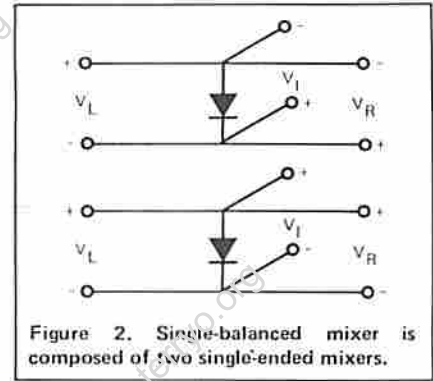
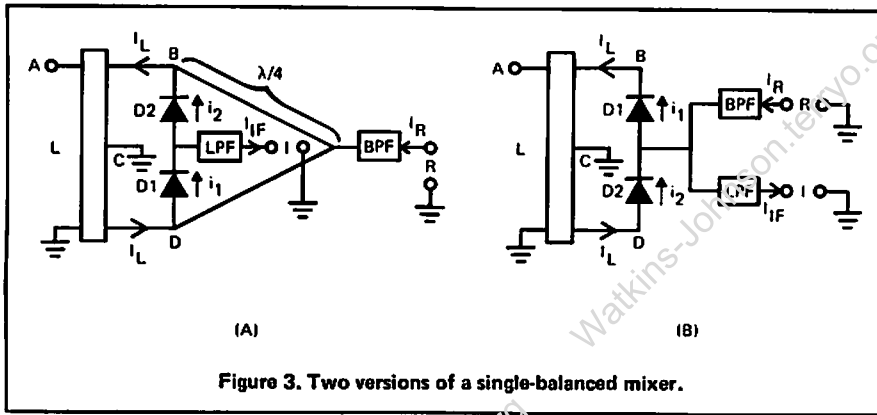
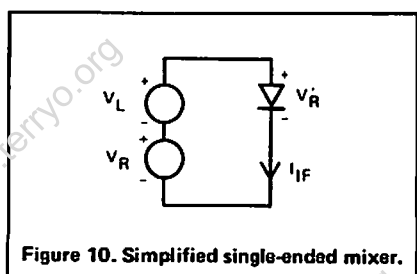

Figure 2. Single-balanced mixer is composed of two single-ended mixers.
Figure 3. Two versions of a single-balanced mixer.
Figure 10. Simplified single-ended mixer.
Charts exist that show trends in intermodulation suppression as a function of input power and frequency. Figure 2 is a single-tone intermodulation chart showing the power level of various intermodulation products relative to the IF output power. Intermodulation charts are not generally tabulated for multiple-tone intermodulation products because each coefficient (m_1, m_2, m_3, \dots and n) requires its own axis on the chart, whereas charts for single-tone intermodulation products require only two axes for m and n . Each box in an intermodulation chart represents one of the infinite integral harmonic combinations of f_R and f_L . Each box in this particular chart contains two rows that each have three values of intermodulation signal suppression. In each row, the first value is for a Class 1 mixer (WJ-M1) having +7 dBm of LO drive; the second value is for a Class 2 mixer (WJ-M9BC) having +17 dBm of LO drive; and the third value is for a Class 3 mixer (WJ-M9E) having +27 dBm of LO drive. These classes of mixers are discussed more fully later in this *Tech-notes* series. The top row in each box gives intermodulation suppression for RF input power of 0 dBm; the bottom row gives intermodulation suppression for RF input power of -10 dBm.
To illustrate the use and importance of intercept point, consider Figure 3, which shows two input RF signals, two output IF signals, and two output two-tone intermodulation products, given the following input frequencies: $f_{R1} = 410$ MHz, $f_{R2} = 400$ MHz and $f_L = 100$ MHz. Assume the desired received signal is f_{R1} , and that f_{R2} is an unwanted input signal. Desired signal f_{R1} mixes with f_L to yield 310 MHz and 510 MHz outputs, and f_{R2} mixes with f_L to yield 300 and 500 MHz outputs. Signals f_{R1} and
If these RF input powers are exceeded, intermodulation output power as a function of input RF power deviates from the $(m_1 + m_2 + \dots)$ dB output power to 1-dB-input-power rule, causing the wrong intercept point to be extrapolated. Secondly, one confusing aspect connected to intercept point is the way in which it is specified by different manufacturers. While most manufacturers specify intercept point as explained in this discussion, some manufacturers, in order to be able to publish a seemingly high value for the intercept point of their mixers, have a different interpretation. Their technique is to specify input intercept point as the power level at which the input RF and output intermodulation power levels are equal. Figures 3 and 4 show that if the input RF power level is increased from +13 dBm to +16 dBm, the power level of the intermodulation products theoretically increases 9 dB, to become +16 dBm also. Some mixer manufacturers would specify +16 dBm as the input intercept point for this mixer, allowing the customer to think he is buying a better mixer than an identical one specified correctly at +13 dBm. This method generates a value for input intercept point that is higher by half the mixer conversion loss than the true input intercept point. It also generates values for input and output intercept points that are equal.
product is discarded. This causes half the input power to be lost, making the SSB noise figure 3 dB higher than the DSB noise figure. This is why IF output power in Equation (3) includes either the up- or down-converted IF product, and not both. Simply adding 3 dB to the DSB noise figure assumes that the mixer generates both sidebands with equal conversion loss. This assumption is routinely made in specifying mixer SSB noise figure because DSB noise figure is sometimes easier to measure.
Single-balanced mixers are composed of two single-ended mixers (see Figure 2). Figure 3 shows two of the forms that SB mixers can take. The L-port balun balances the diodes and interfaces them with the unbalanced LO input. The most important characteristic about a balun is its ability to maintain phase angles with respect to ground, of $\pm 90^\circ$ at B, $\mp 90^\circ$ at D, and 0° at C (if it has a center tap). When these angles are maintained, the balun is said to be well-balanced. Insertion loss, and output-to-input impedance ratios of baluns are also important. Many versions exist, some of which are discussed later.
balance of the balun and diode match. If the i-v (current-voltage) curves match with each other, and the parasitic reactances of all the diodes match, the diodes form a voltage divider, causing a *virtual ground* to appear at the junction between D1 and D2 in Figure 3. A virtual ground is a node having a 0° phase angle with respect to ground. The effect of the virtual ground is to null out the LO voltage to keep it from appearing at the R- and I-ports, thus isolating the L-port from the R- and I-ports. This is a broadband means of causing isolation, because balun balance and diode match are inherently less susceptible to frequency change than are filters. Actual baluns are never perfectly balanced, and actual diodes are never perfectly matched, so a finite amount of LO power becomes incident at the R- and I-port filters.
RF current in Figure 3 flows from cathode to anode in D2. A forward biased diode can be modeled as a switch that is either open or closed: a closed switch allows current flow in both directions. If the RF current through D2 is much smaller than the LO current biasing it on, D2 will appear to the RF current as a closed switch. The small-signal RF current flowing in D2 cancels a small part of the large-signal LO current, shifting the average operating point of D2 to a lower voltage. Similarly, the RF current flowing in D1 adds to the LO current, causing the average operating point of D1 to have a higher voltage. This is illustrated in Figure 4. If the RF and LO amplitudes are different by less than about 10 dB, alternate cycles of the RF signal cause one diode to almost completely bias off, and the other diode to bias on even harder, causing the mixer to become unbalanced, degrading isolation and IM suppression. Conversion loss degrades as well because the IF and RF current
Figure 10 shows a simplified SE mixer, which is the basic building block in balanced mixers. It is identical to Figure 3 in that the large-signal V_L periodically switches the diode on and off to gate V_R , but different in that the diode passes through a very nonlinear conduction region between its fully-on and fully-off states. V_L , which controls diode conductance, G_L (analogous to S_L), causes current I_L to flow through the diode. I_L contains harmonics of f_L due to the diode nonlinearity. G_L equals I_L divided by V_L ; hence, G_L also contains harmonics of f_L . These harmonics are especially prevalent in G_L if the level of V_L is high enough to make the